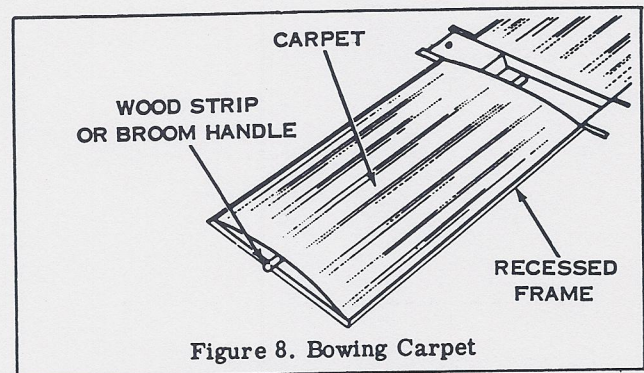
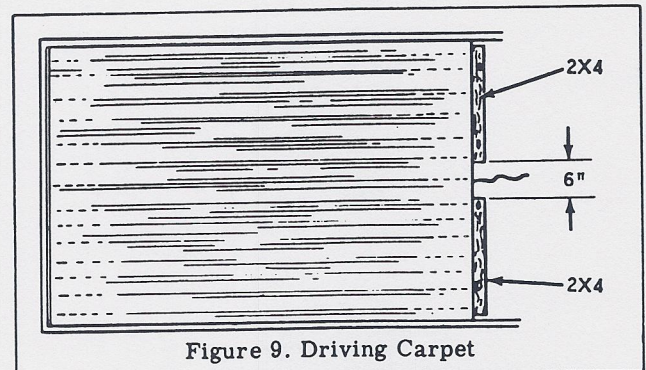

Figure 8. Bowing Carpet
Figure 9. Driving Carpet
7. After the concrete has hardened thoroughly, remove the wood strips from the recessed frame assembly. Lubricate the edges of the recessed frame with liquid soap or electricians pull-through compound. Bow the carpet over a 1" wood strip or broom handle as shown in figure 8. Use care in handling the carpets. If bent to extremes during installation, the electrical contact plates may be distorted permanently. Remove the wood strip and seat the carpet in the side of the frame. Drive the carpet about 1/8" into the end of the frame using a 9" length of 2 x 4 as shown in figure 9. Keep the block at least 3" from either side of the wire leads.